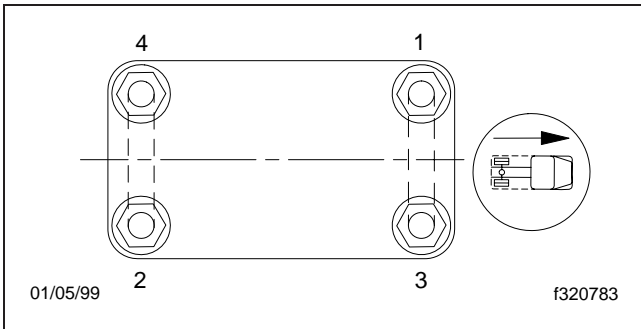

Fig. 16, Tightening Pattern for U-bolt High Nuts
* Tighten in a diagonal pattern as shown in Fig. 16.